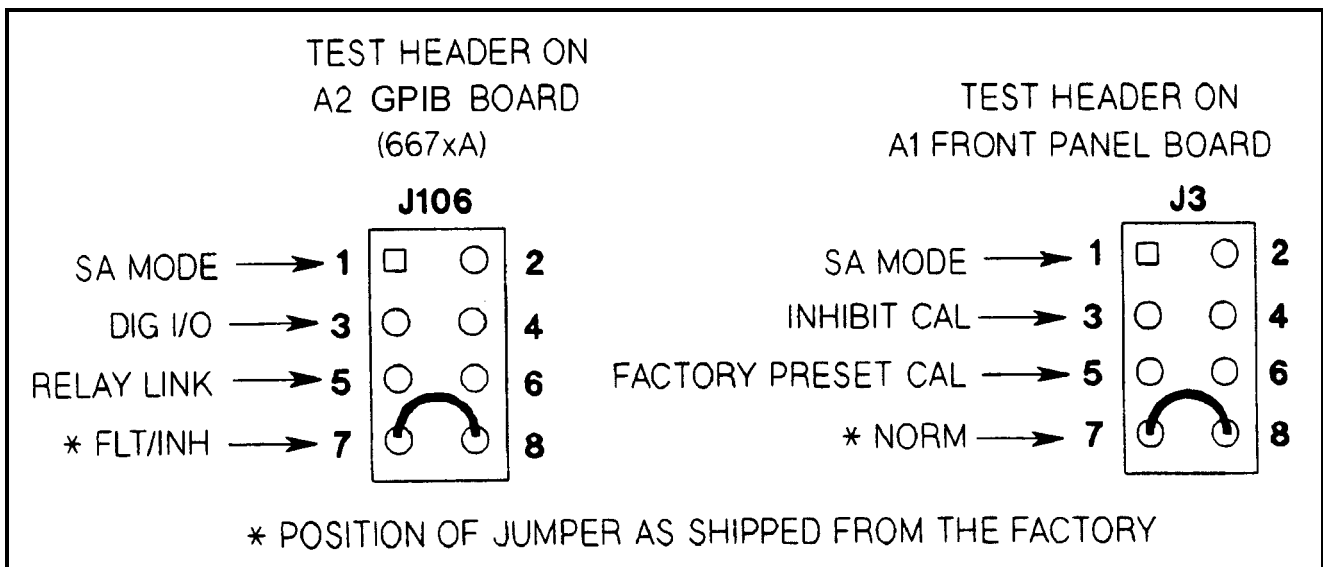

Figure 3-15. Test Header Jumper Positions
The power supply has two test headers as shown in Figure 3-15, each with a jumper that can be moved to different positions for SA testing and for other functions. To gain access to the headers, remove the power supply top cover.
2. Connect SA jumper of connector J106 on A2 GPIB Board (see Figure 3-15).
3.	Connect SA jumper of connector J3 on A1 Front Panel Board (see Figure 3-15).
3. Connect signature analyzer CLOCK, START, STOP, and GROUND inputs and setup as shown in Figure 3-15.
If **CAL DENIED** appears on the display when front panel calibration is attempted (or error code 1 occurs when GPIB calibration is attempted on a Systems Supply), the INHIBIT CAL jumper (see Figure 3-15) is installed. This prevents the power supply calibration from being changed. To calibrate the power supply first move this jumper from the INHIBIT CAL position to the NORM position.
| 2 | Move the jumper in test header J3 on the A1 Front Panel Board from the NORM to the FACTORY PRESET CAL position (see Figure 3-15).  |
| 4 | When PWR ON INIT no longer appears, the supply's factory calibration constants have been restored and the password has been changed to 0. There is no longer any password protection. You can now turn off the supply and restore the calibration jumper to the NORM position (see Figure 3-15). |